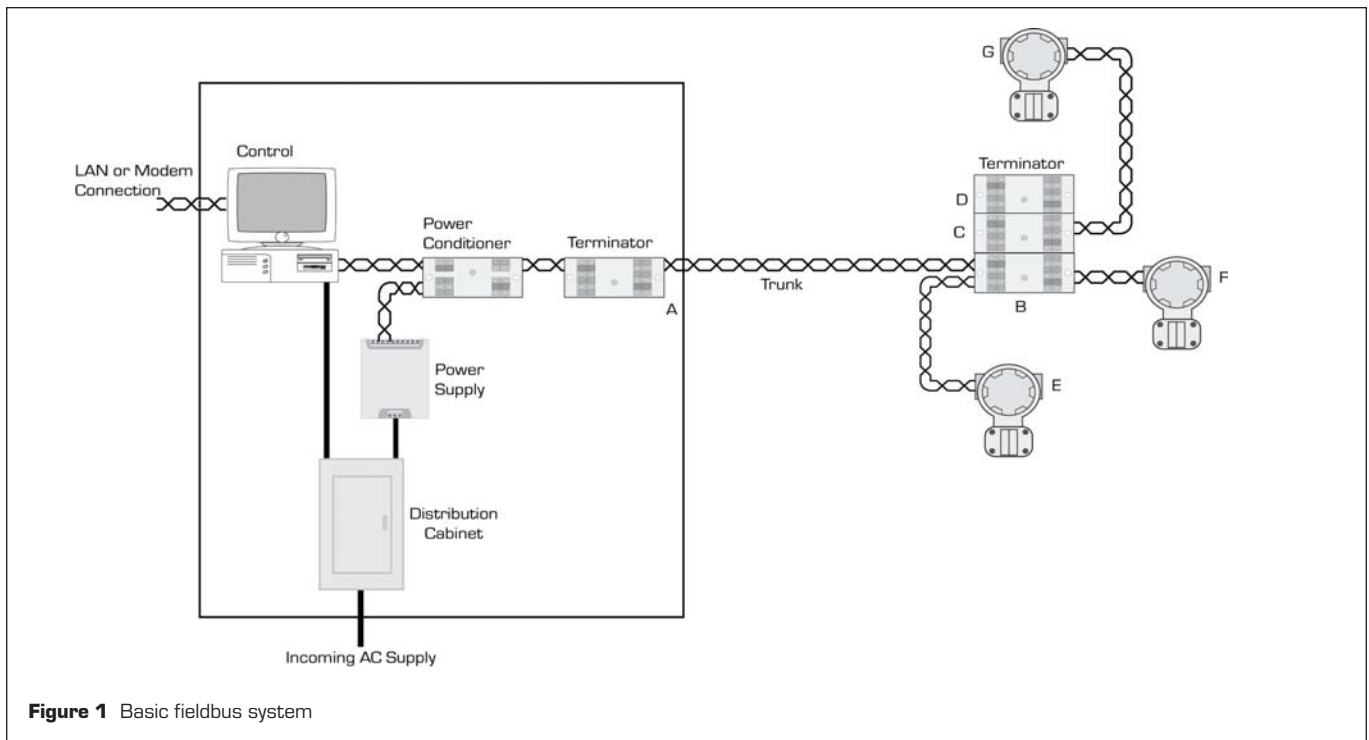

Figure 1 Basic fieldbus system
Figure 1 shows a simple fieldbus system having three field devices connected. For the purposes of analysing the system for surge protection requirements all connections to and from the systems have to be regarded as mentioned in 5.1, 5.2, and 5.3.
- From figure 1 between A and B